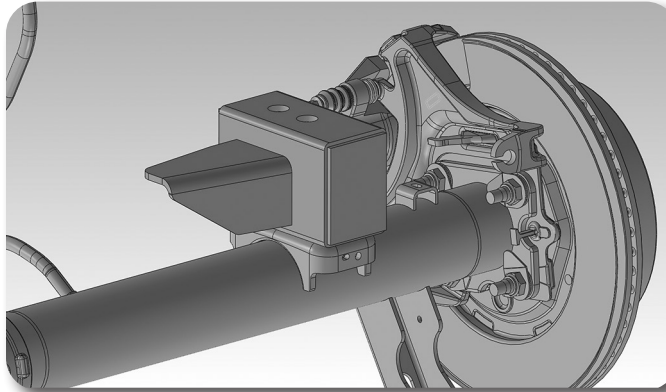

Figure 8
11. The fabricated rear blocks are designed to offset the axle forward slightly. The bump stop wing will be centered under the bump stop on the frame. Install the block as shown in the figure, align the center pins and raise axle. **Figure 8.**